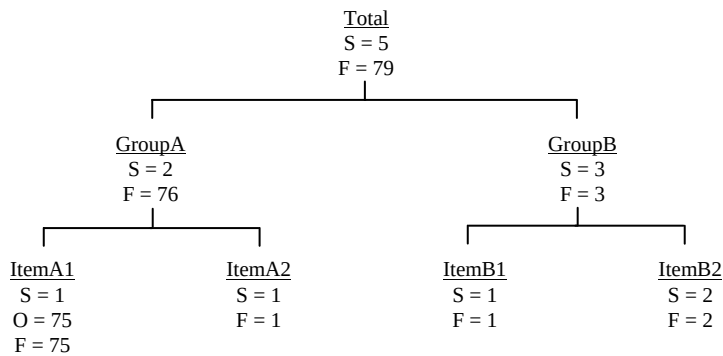
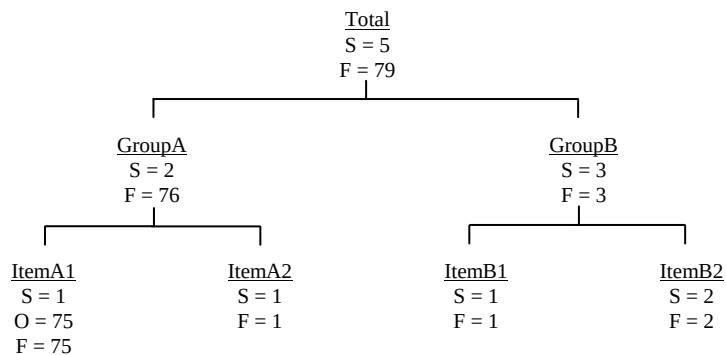

Figure 2.
Figure 4.
Let's now modify the above hierarchy by overriding the forecast for ItemA1 to equal 75. This results in the hierarchy shown in Figure 2 below.
Figure 4 below depicts a forecast hierarchy where ItemA1 has been overridden to equal 75. (It is identical to Figure 2.)
- 1.) Forecast Pro TRAC used the *Statistical* forecasts for GroupA and GroupB to determine the allocation proportions NOT the previously committed *Forecasts* displayed in Figure 4. Using the committed Forecasts from Figure 4 would have resulted in a dramatically different allocation.